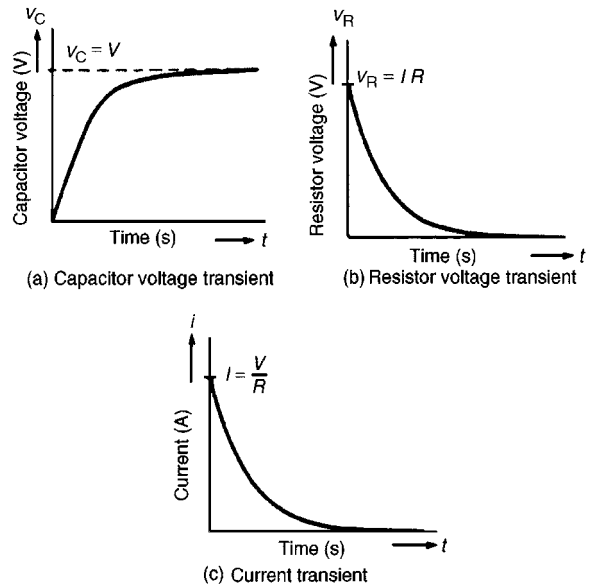

Figure 18.2
- (c) A short time later at time t_1 seconds after closing S , the capacitor is partly charged to, say, q_1 coulombs because current has been flowing. The voltage v_{C1} is now (q_1/C) volts. If the current flowing is i_1 amperes, then the voltage drop across R has fallen to i_1R volts. Thus, Equation (2) is now $V = (q_1/C) + i_1R$
- (e) Ultimately, a few seconds after closing S , (i.e. at the final or **steady state** condition), the capacitor is fully charged to, say, Q coulombs, current no longer flows, i.e. $i = 0$, and hence $v_R = iR = 0$. It follows from Equation (1) that $v_C = V$.
- (f) Curves showing the changes in v_C , v_R and i with time are shown in Fig. 18.2
- (a) If a constant d.c. voltage is applied to a series connected C–R circuit, a transient curve of capacitor voltage v_C is as shown in Fig. 18.2(a).
The transient curves shown in Fig. 18.2 have mathematical equations, obtained by solving the differential equations representing the circuit. The equations of the curves are: